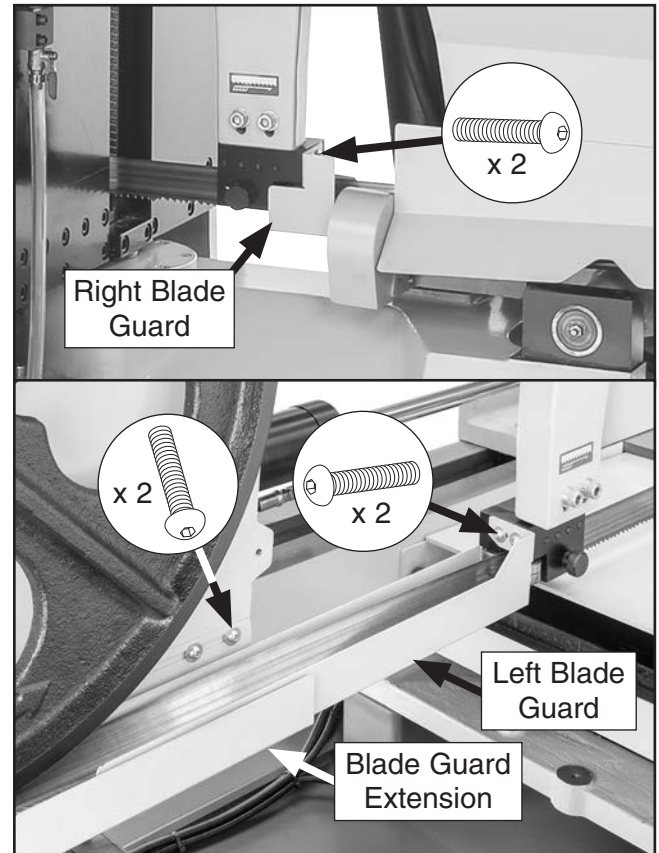

Figure 29. Location of blade guards and blade guard extension.
6. Remove both blade guards and blade guard extension by removing (6) button head cap screws and flat washers (see **Figure 29**).